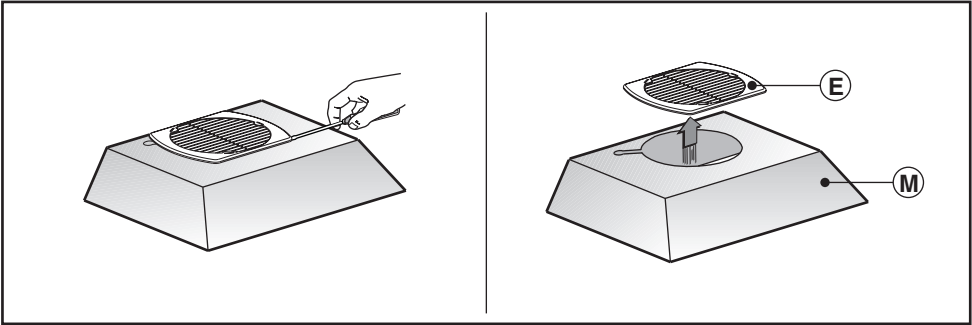

Fig.6
-Unclip the canopy **M** and remove the grille **E (Fig.6)**.